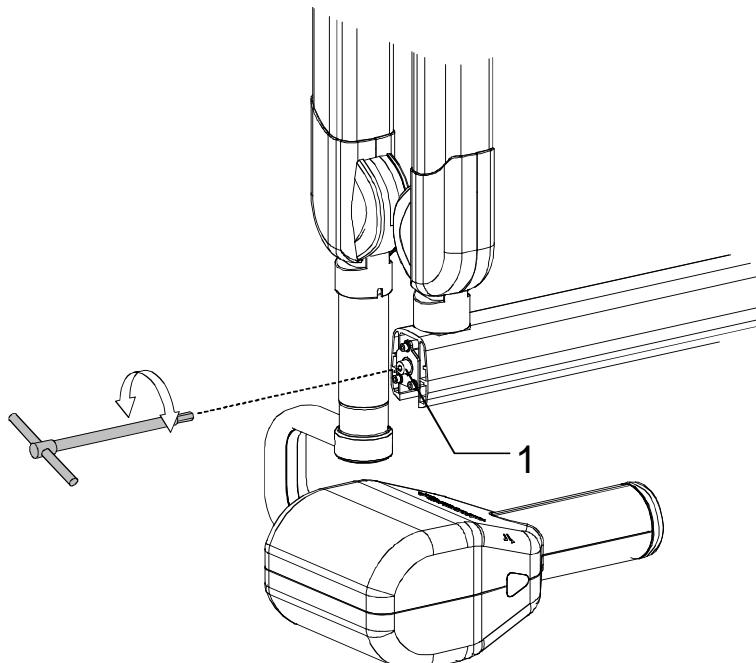

Figure 7-2
2. Adjust the frictioning mechanism (1 - Figure 7-2) using a 5 mm hexagon wrench checking the rotation of the scissors arm.